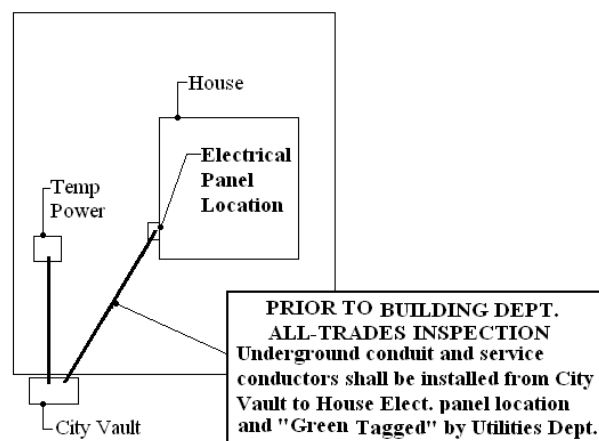

Figure CPA 002 – Underground Service Requirements (Temporary and Permanent Installations)
- For underground electrical services, the Contractor must call CPAU at (650) 496-6977 to schedule an inspection with CPAU before entering a CPAU electrical vault. CPAU will inspect and shall place a green sticker on the panel prior to the Building Department Inspection.
- Install underground conduit to permanent power location prior to all-trades inspection (see Figure CPA 002).